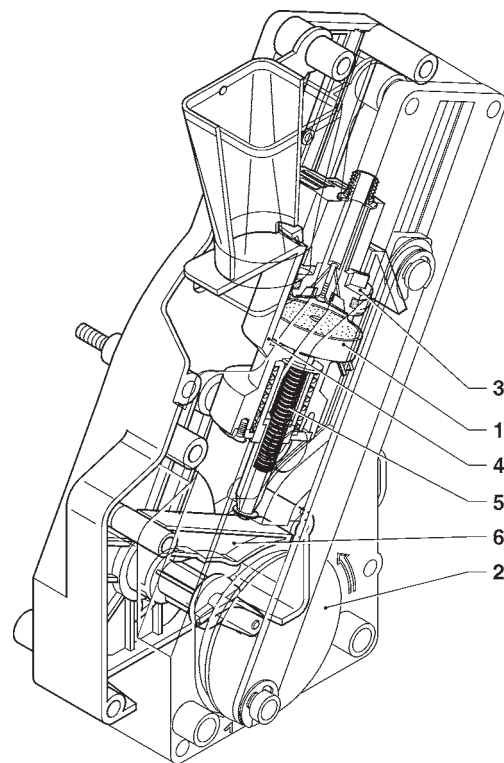

Fig. 18
The ratiomotor handle engaged with the disk (2) located outside of the assembly rotates by 180°, making the brew chamber swing and lowering the upper piston (3) (see Fig. 18).